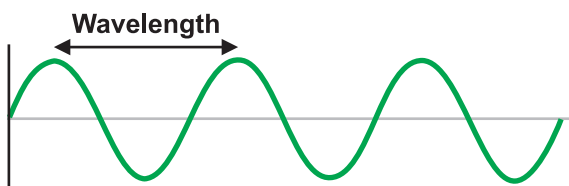

Figure 6.4: Wavelength of a wave
3. Wavelength: Wavelength refers to the distance between two successive waves, as shown in Figure 6.4.